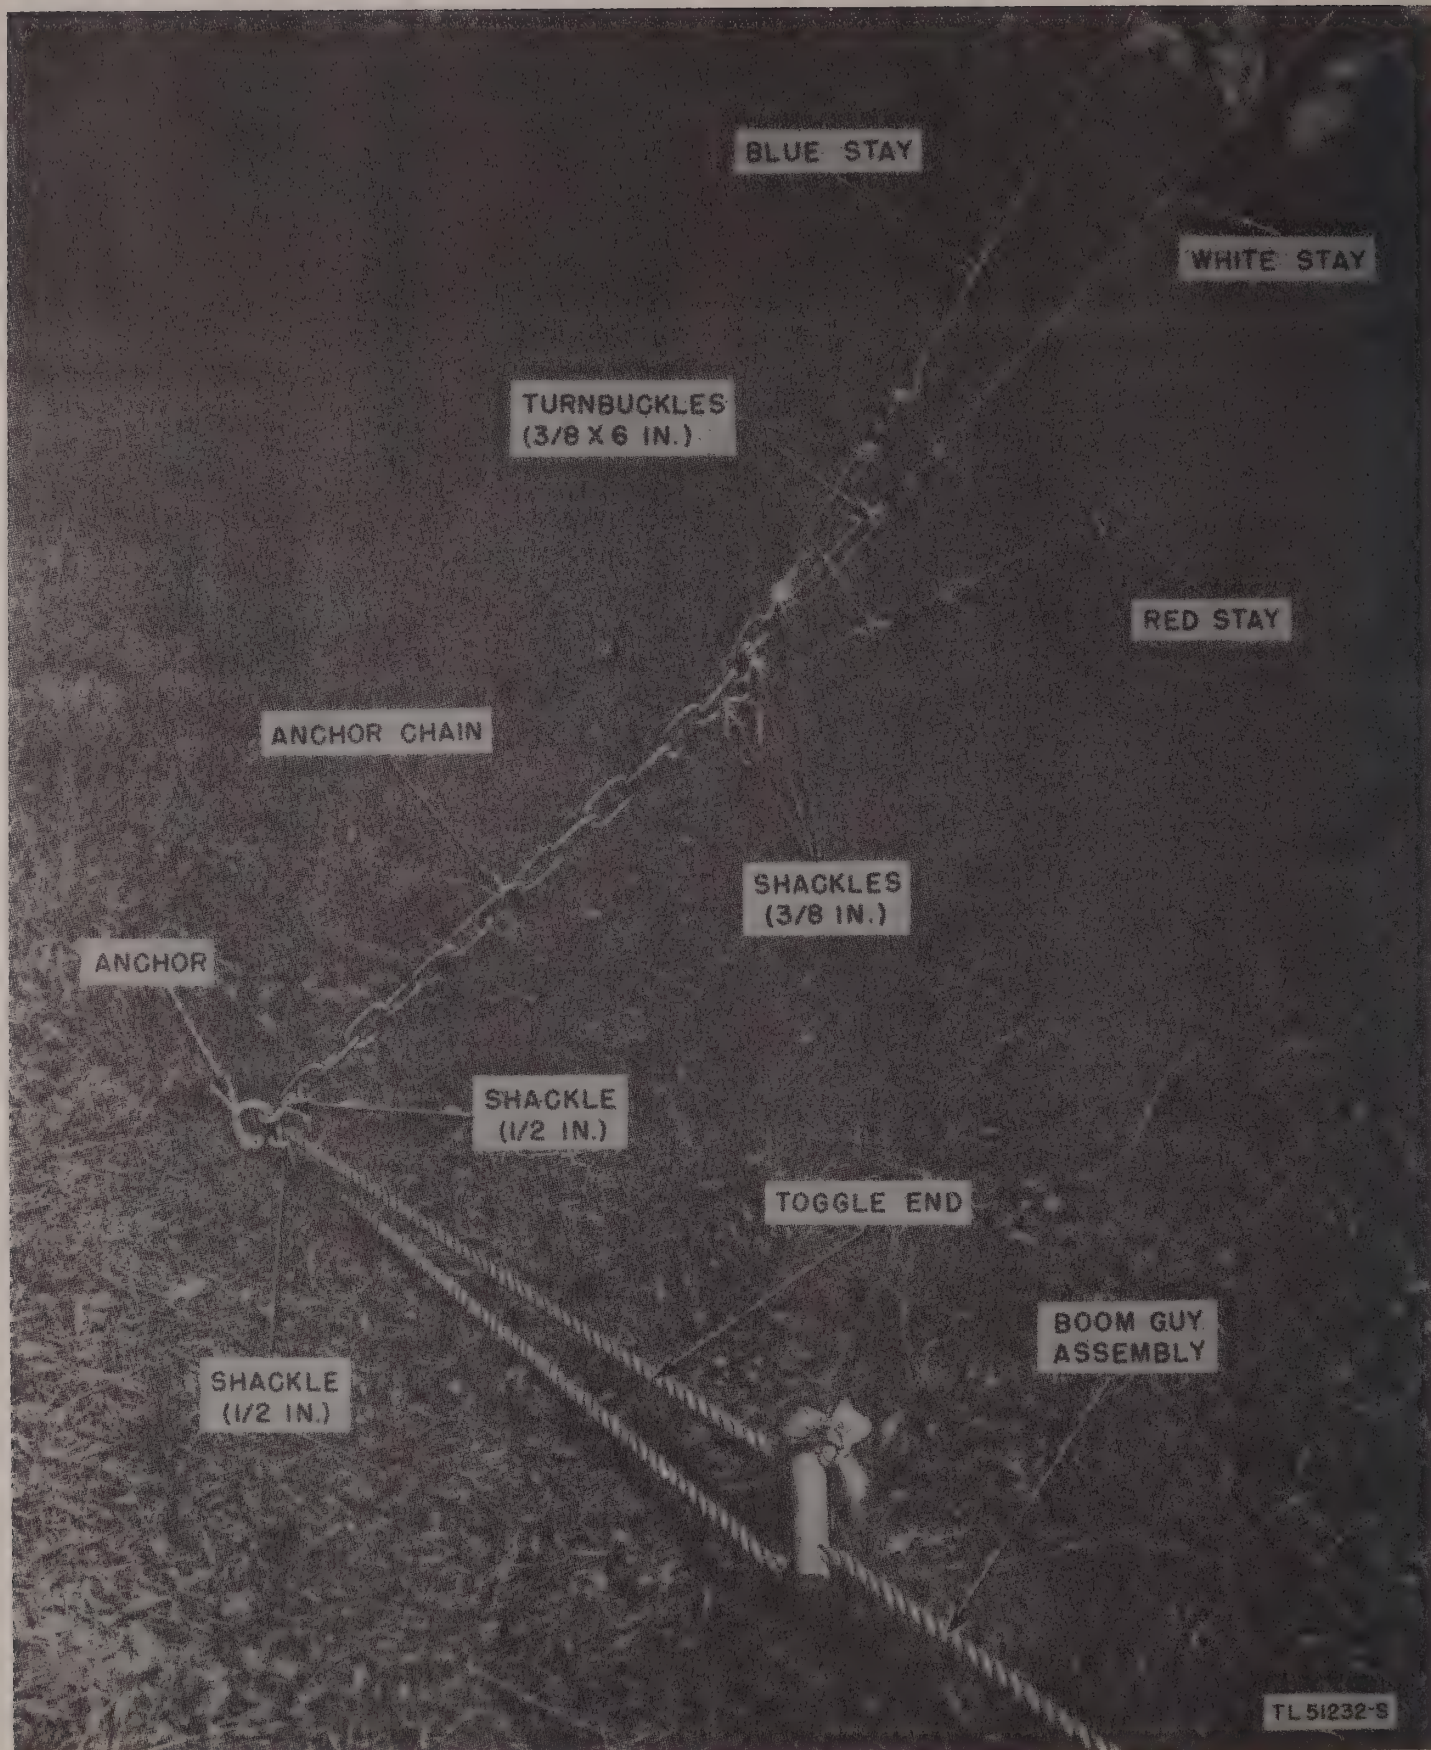

Figure 11. Anchor, stay, and boom guy assembly.
(1) Insert the plate of the boom end between the mast shoe plates so that the hole in the *top* boom end plate is in the position shown in figure 11. This hole provides connection for raising the boom; the alignment is necessary to connect the block and tackle and boom guys.
d. Guys. With $\frac{3}{8}$ -inch shackles, fasten the toggle end of the boom guys to anchors A and C (fig. 11). Fasten the other end of the boom
b. A, B, and C Stays. These stays have turnbuckles at one end which connect to the anchor chains (fig. 11). The other end of each stay connects to a stay attachment on the mast (fig. 2). Using a $\frac{3}{8}$ -inch shackle, connect each A